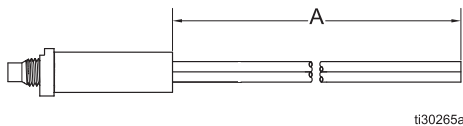

FIG. 2: Cut Cables to Length
- For a standard applicator cut both cable strands to 7.7 inches (195 mm), measuring from the back of the cable housing to the end of the cable. See “A” in Fig. 2.
- For a hollow wrist applicator cut both cable strands to 11.3 inches (287 mm), measuring from the back of the cable housing to the end of the cable. See “A” in Fig. 2.